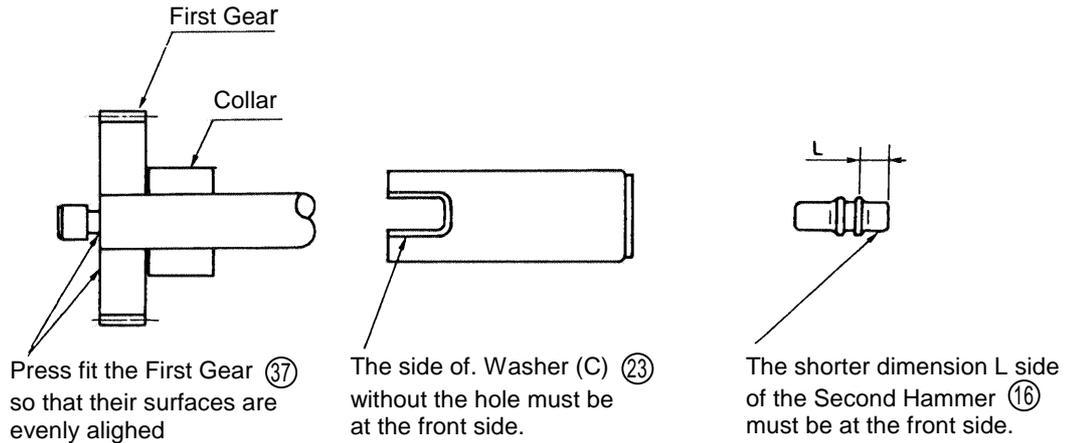

Fig. 3 Installation Direction of Various Parts
- (3) When installing Washer (C) (23) and the Second Hammer (16), be very careful to ensure they are installed in the proper direction (see Fig. 3).
- (4) When pressure fitting the First the Gear (37), ensure that its surface is flush with the surface of the Second Pinion (31). At this time also check to ensure that there is a clearance between the Collar (36) and the First Gear (37) to allow the Collar to rotate (see Fig. 3).
- (5) During reassembly, coat JF-315 grease on the following places. Also insert 30g of JF-375 grease around the Reciprocating Bearing (35).